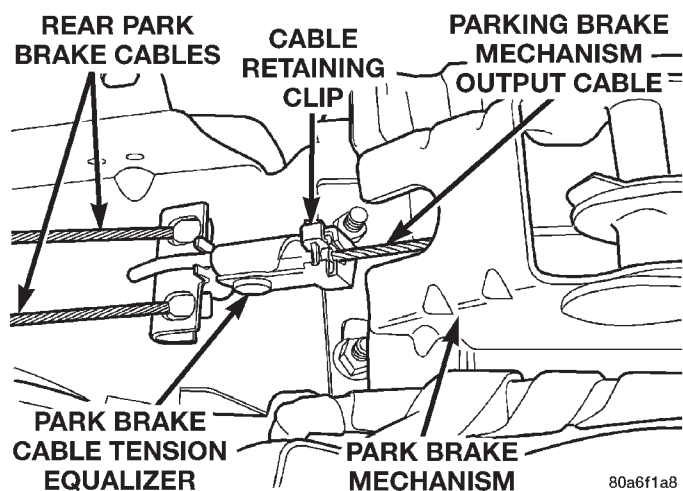

Fig. 132 Cable Retainer Installed On Tension Equalizer
(5) Install a **new** park brake lever output cable to tension equalizer retaining clip (Fig. 132) on tension equalizer. The cable retainer (Fig. 132) must be closed and securely latched.